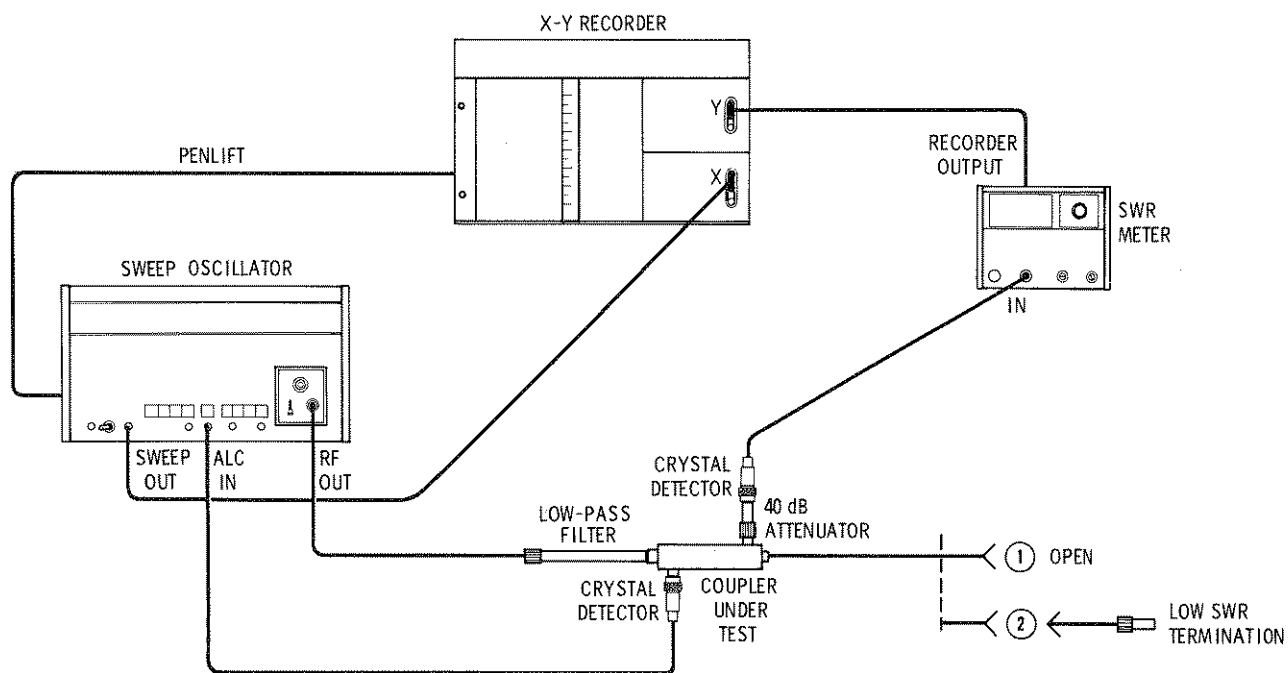

Figure 7. Swept-Frequency Directivity Test Setup
- a. Connect equipment as shown at ① in Figure 7.
1. Connect the termination as shown in ② in Figure 7. Note that this termination must have an $SWR \leq 1.01$. Do NOT use adapters, which will increase SWR, with this termination. If adapters are used, the results will be degraded.